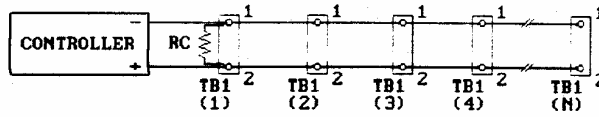

Figure 3-6. Controlling Several 1Zs Connected in Parallel
- a. Connect each unit as shown in Figure 3-6.